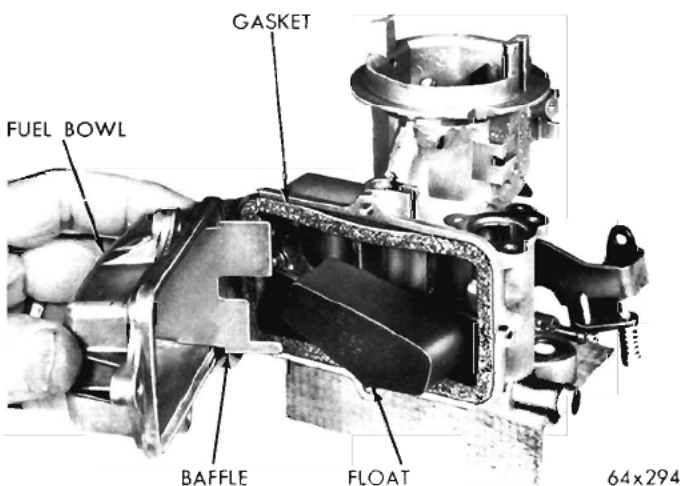
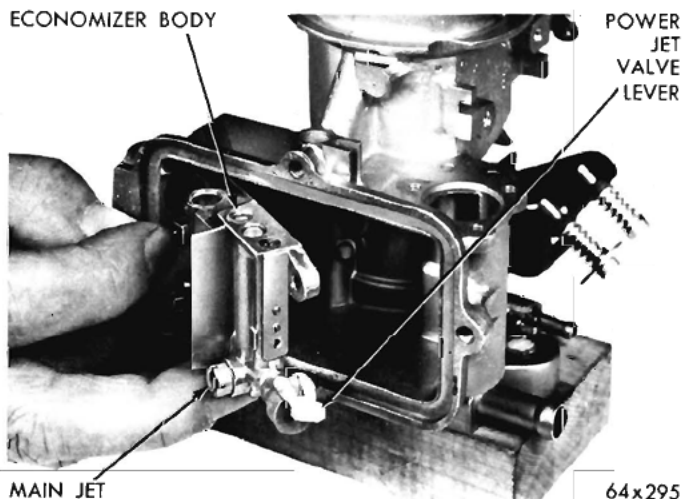

Fig. 6—Removing or Installing Fuel Bowl
Fig. 7—Removing or Installing Economizer Body
(7) Remove the fuel bowl attaching screws, then remove the fuel bowl, baffle and gasket, as shown in (Fig. 6). Slide baffle out of bowl. Discard the gasket. Remove the float bumper spring.
(8) Using a suitable tool, remove the float retaining clip, then slide float off the fulcrum pin.
(9) Remove the screws that attach the economizer body and plugs, then remove the economizer body as shown in (Fig. 7).
(8) Turn the carburetor with bowl opening up then position the main well and equalizer body in the carburetor, as shown in (Fig. 7). Install screws and tighten securely.
(9) Engage the choke link with the choke lever and fast idle cam. Place cam in position, then install retaining screw. Tighten screw securely.
(10) Slide the float into position over the fulcrum